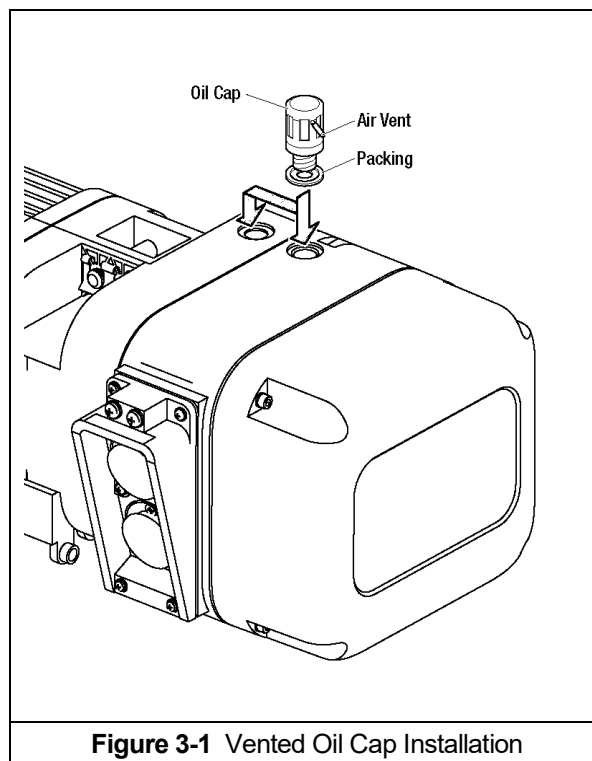

Figure 3-1 Vented Oil Cap Installation
- 3.1.3 All ER2, mechanical load brake equipped hoists, are shipped with a separate air vented oil cap. This vented oil cap must be installed prior to use. To install, remove an existing oil plug and replace with the vented oil cap (refer to Figure 3-1).
- 3.1.4 There are two oil fill holes located in the top of the gear case on the ER2 hoist. For ER2 coupled to MR2 trolley, there are some flange widths that make it necessary to relocate the oil cap assembly to the other oil fill hole. This will prevent interference with trolley side plate. Refer to Figure 3-1.